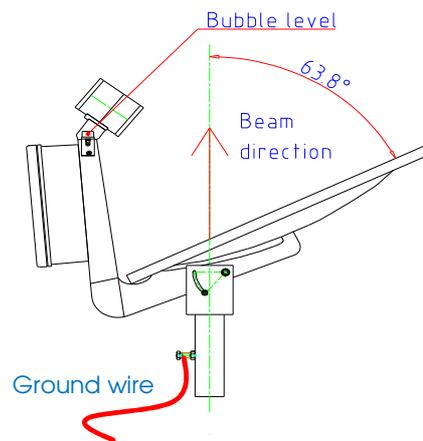

Figure 8: Vertical alignment of the radar beam
3. Check the vertical alignment of the antenna with the built in bubble level (see Figure 8).